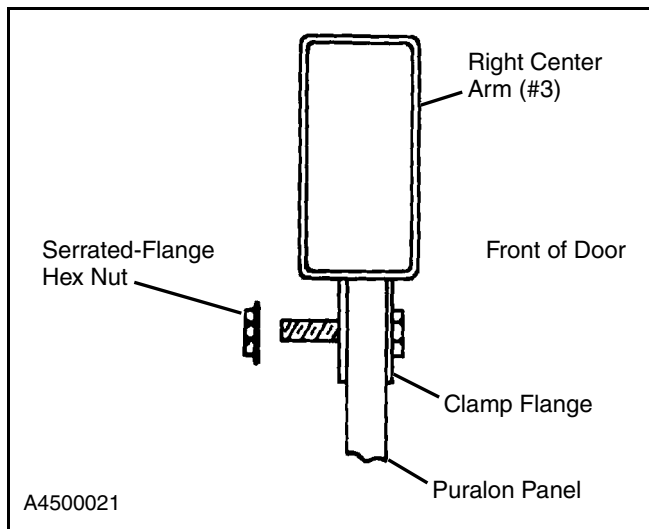

Figure 21
5. Attach the right center panel and clamp flange to the center arm with 5/16-18 serrated-flange hex nuts provided with the door. (See Figure 21.)